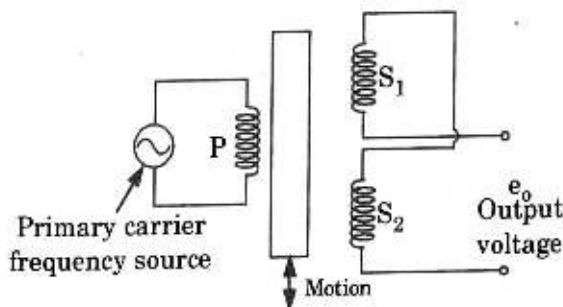

Fig. 5.11.6. LVDT (Linear motion type).
- In a linear variable differential transducer (LVDT) type of transducer, shown in Fig. 5.11.6 a soft iron core provides the magnetic coupling between a primary coil and two secondary coils, connected in series opposition. When the core is central and both secondaries are identical, the voltages across them are equal in magnitude.